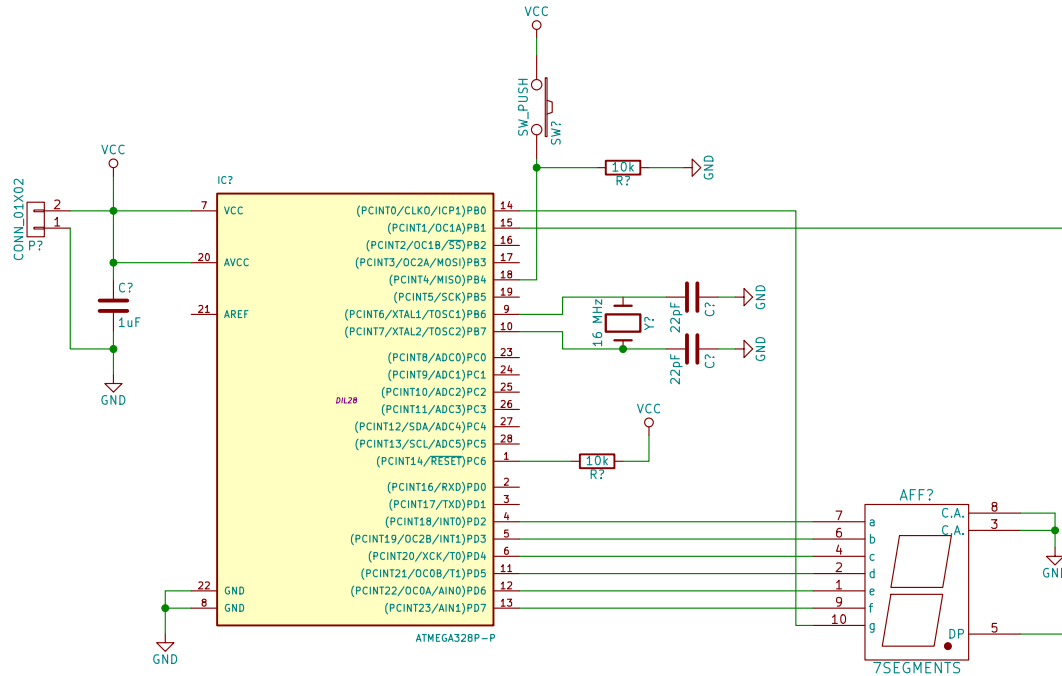

Figure 6: Initial schematic drawing of Example 1 circuit.
5. Connect the components together according to Fig. 6 by placing wires between corresponding pins. The components should be arranged to make connecting them together easier with less